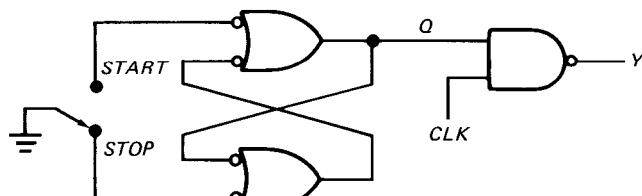

Fig. 7-21
- 7-7. Figure 7-21 shows a NAND latch used as a switch debouncer. With the switch in the STOP position, what do Q and Y equal? If the switch is thrown to the START position, what do Q and Y equal?